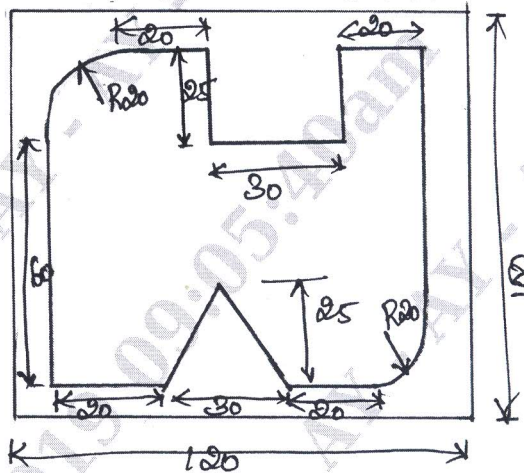

Fig.Q8(b)
- b. Write the part program for the sketch given below Fig.Q8(b).